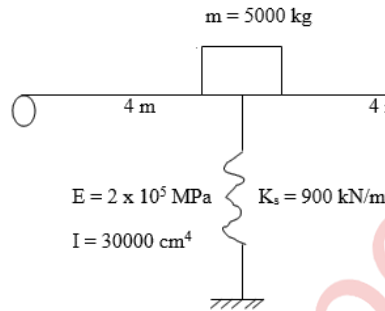

Fig. 1
- b Determine natural time period & natural frequency for the system shown in fig. 1 **05M**